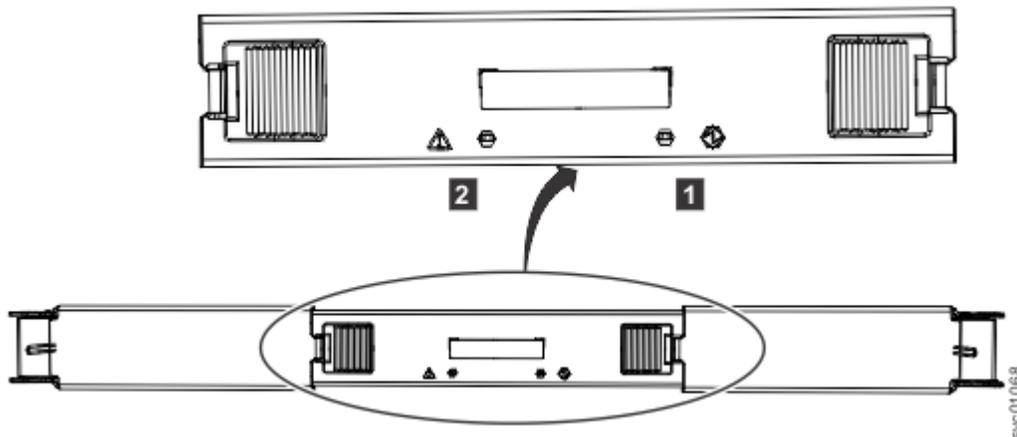

Figure 87. LEDs on a secondary expander module
2. Identify the secondary expander module to be replaced; Figure 87 on page 78 shows the LEDs on top of a secondary expander module.